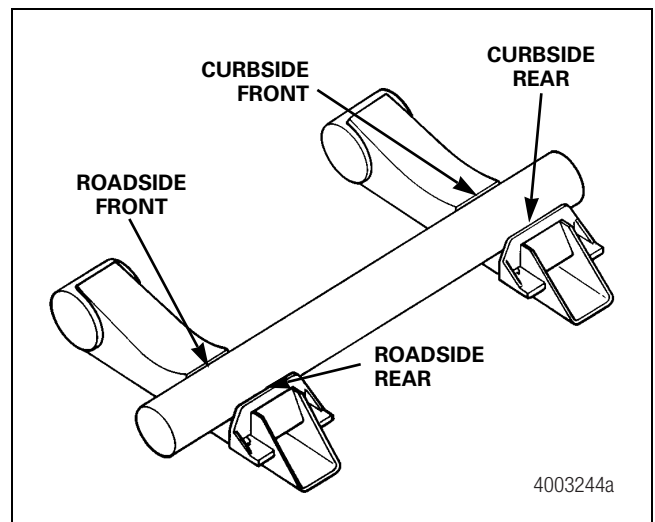

Figure 7.14
- Some brackets are attached to trailer axles with multiple welds. For example, at each of the weld locations shown in Figure 7.14, roadside front, curbside rear, etc., three weld passes are applied. Axle distortion can be minimized in this situation by sequencing the welds. This involves alternating weld passes from the front to the rear of an individual bracket and between the brackets located on the axle roadside and curbside. This is in contrast to applying all the welds at one bracket location prior to applying the welds at other locations.